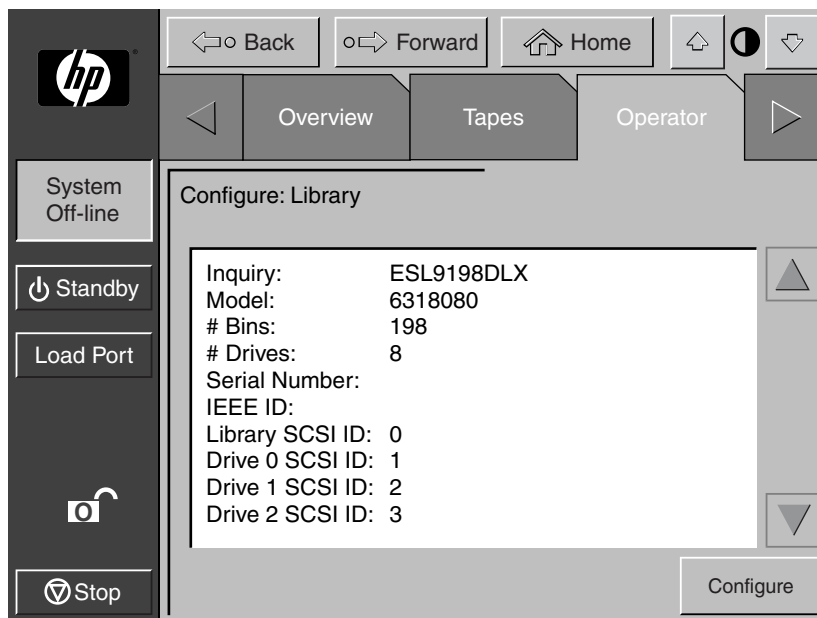

Figure 4-3: Configure: Library screen (ESL9198 shown)
1. In the Operator screen, press the **Configure Library** button. The control panel displays the Configure: Library screen (see Figure 4-3).